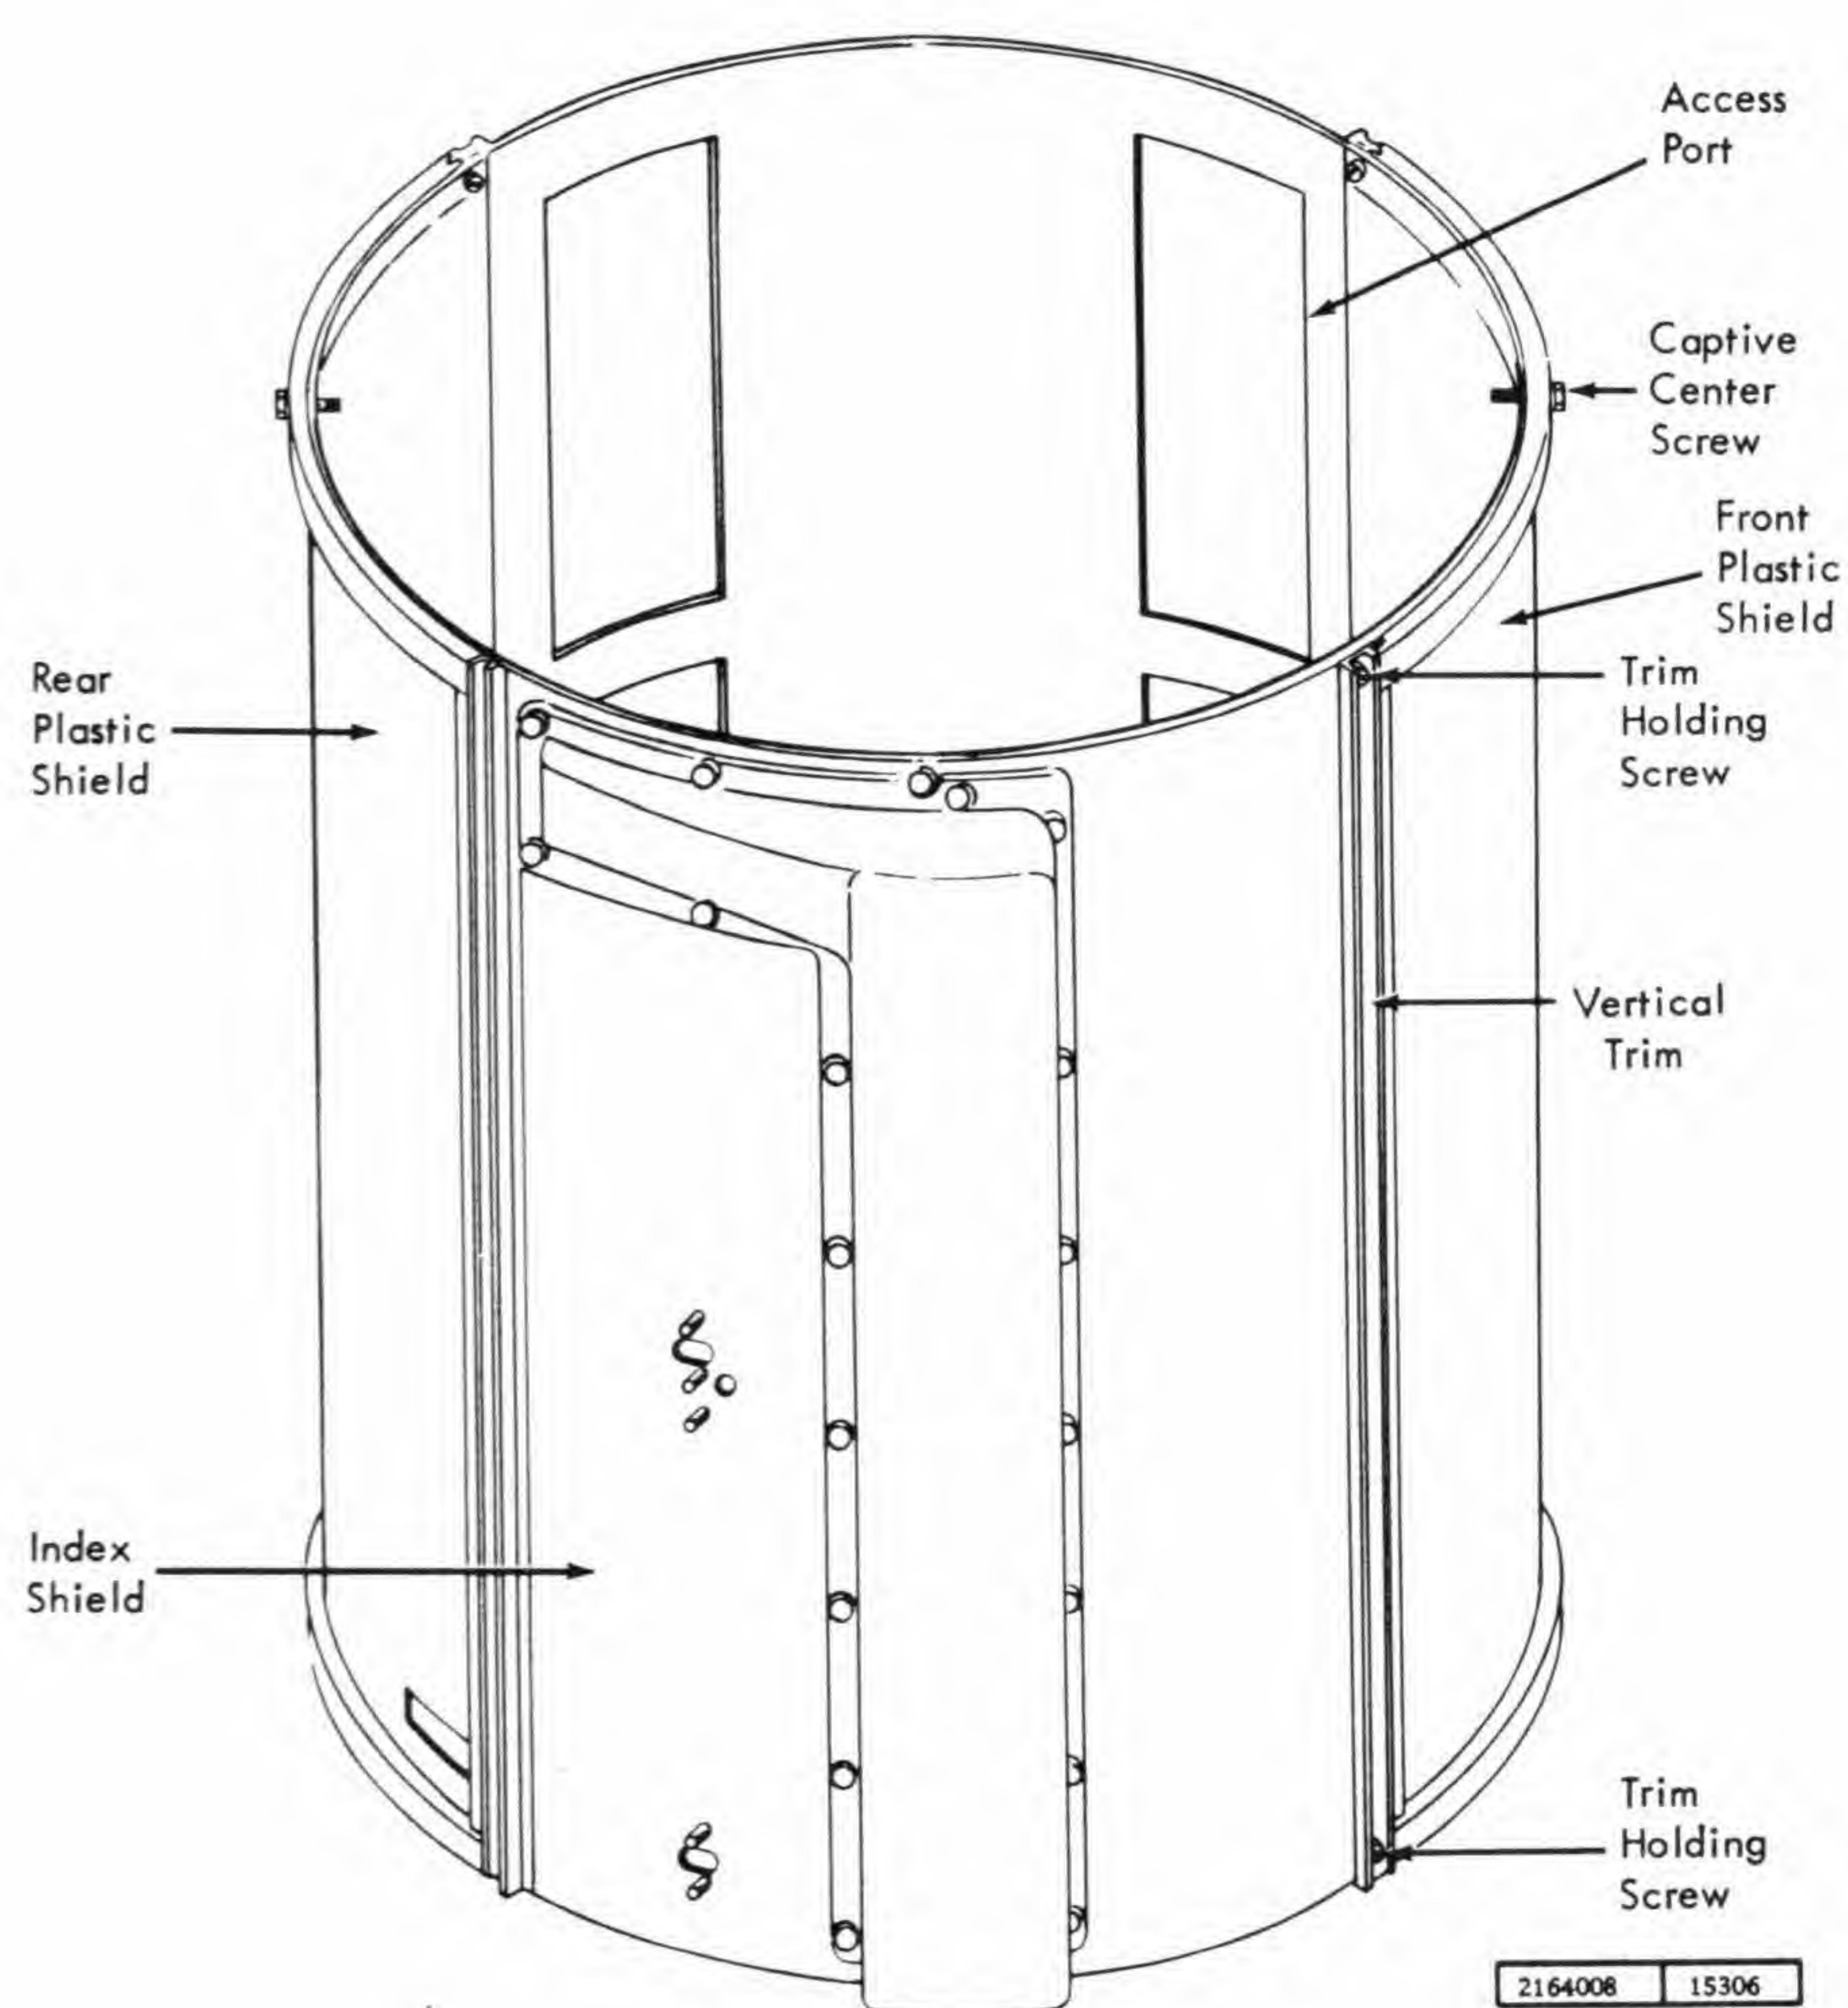

Figure 3-1 Disk Array Shields
3.1.2.1 Plastic Shields -- Front and Rear (Figure 3-1)
5. Remove vertical trim (Figure 3-1).
Replacement (Figure 3-1)
3.1.2.2 Index Shield (Figure 3-1)
3.1.2.3 Access Port Shield (Figure 3-1)